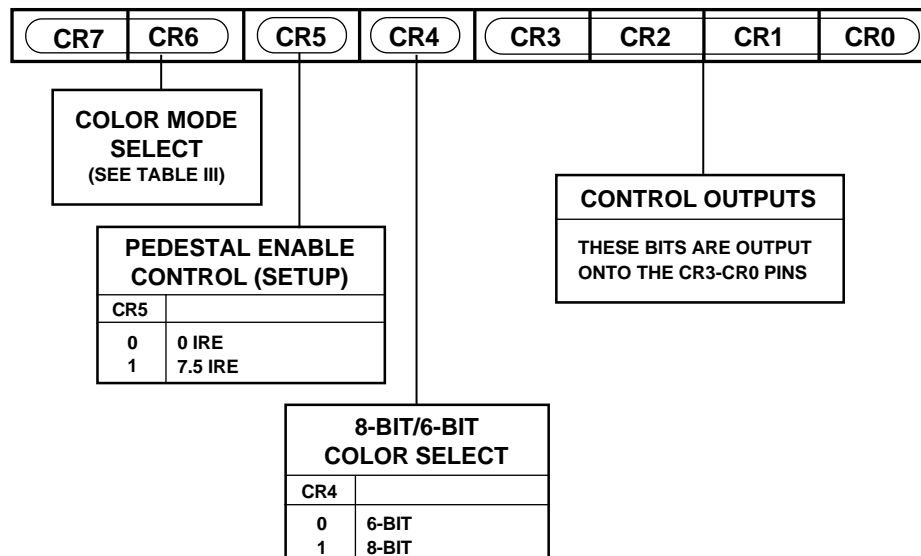

Figure 4. Command Register (CR)
The ADV473 has an internal command register (CR). This register is 8 bits wide, CR0–CR7 and is directly mapped to the MPU data bus on the part, D0–D7. The command register can be written to or read from. It is not initialized, therefore it must be set. Figure 4 shows what each bit of the CR register controls and shows the values it must be programmed to for various modes of operation.